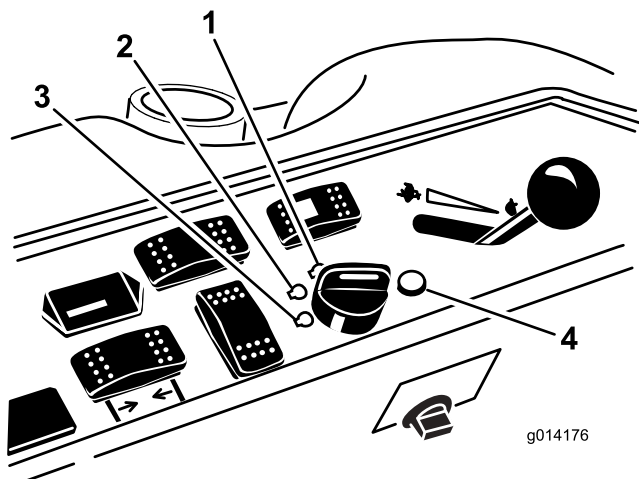

Figure 20
6. Turn the ignition key clockwise to the RUN position (Figure 20).